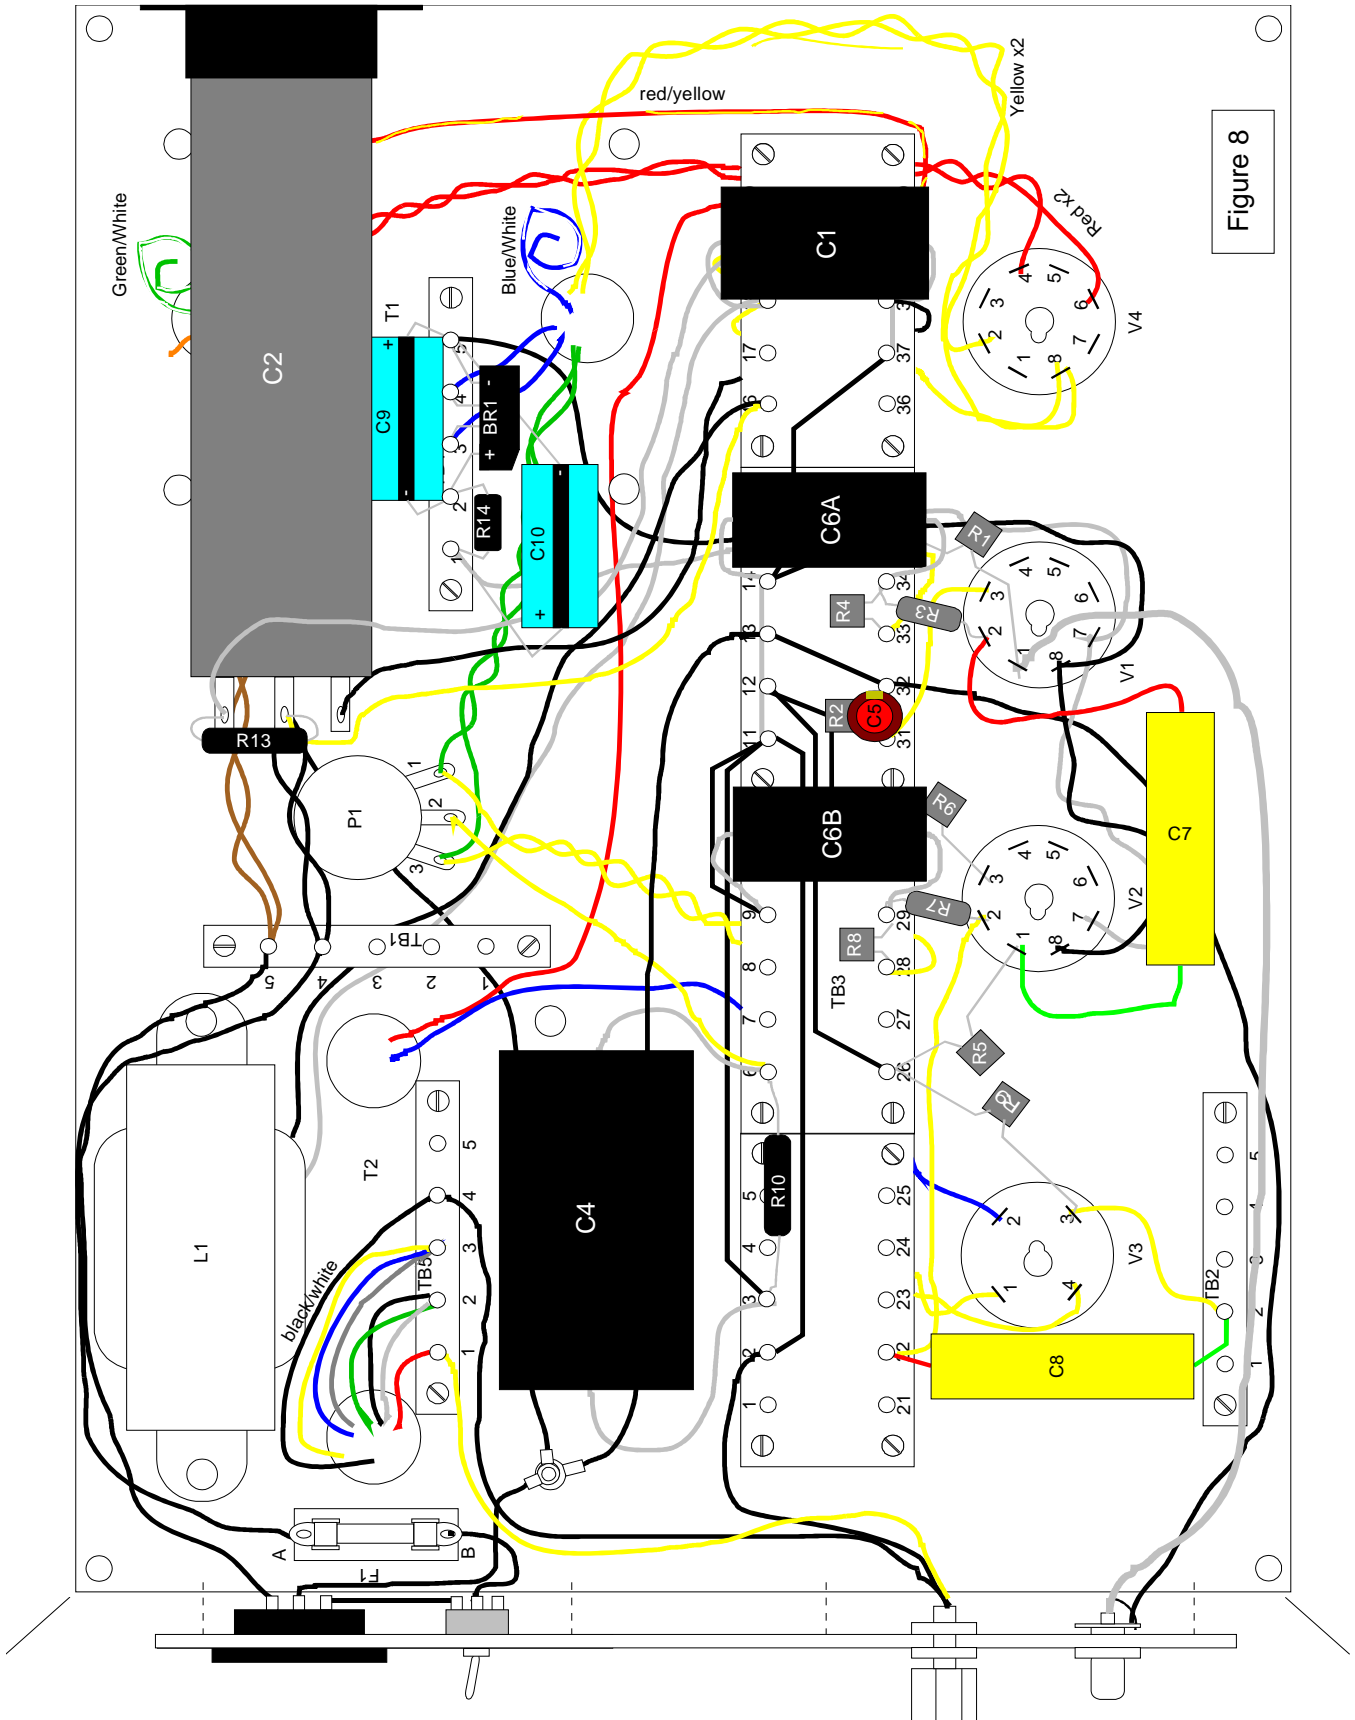

Figure 8
Position capacitor C7 as shown in figure 8 and solder the red capacitor lead to V1-2 and the green capacitor lead to V2-1.
Position capacitors C6A and C6B as shown in figure 8 and solder one lead of C6A to terminal TB3-34 and the other lead to TB3-14. Solder one lead of C6B to terminal TB3-29 and the other lead to terminal TB3-9.
10. It is now time to carefully mount the brass plate to the walnut base. Before mounting the brass plate, attach capacitor C2 to the side wall of the walnut box, using the provided bracket, as shown in figure 8. Once the capacitor is installed, mount the brass plate to the walnut box and secure it with the button head socket screws.
As shown in figure 8, solder the loose end of the white coax cable to V1-1. The braid of the coax cable is not connected at this end so just cut it back.